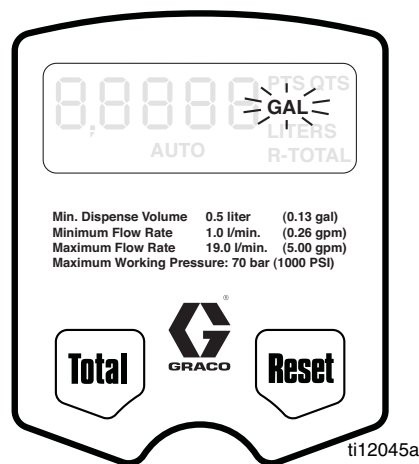

FIG. 12
- b. Press and hold Reset button to display Units of Measure Menu. When this menu is displayed the last set Unit of Measurement blinks on the screen (FIG. 12).
Units of Measurement (FIG. 12)